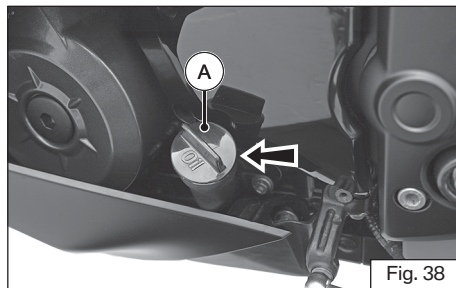
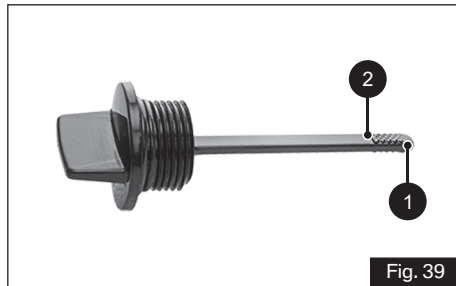

Fig. 38
Fig. 39
To check the engine oil level, a gauge oil level (dip stick) (A) given on the left side of the crankcase (ref. Fig. 38).
- ♦ After 2 to 3 minutes, remove the gauge oil level (A) and wipe it cleanly.
- ♦ The level should be between minimum (1) and maximum level (2) mark on the gauge (ref. Fig. 39).
- ♦ If the level is below the minimum level (1), slowly add recommended engine oil till the level reaches to maximum level (2).